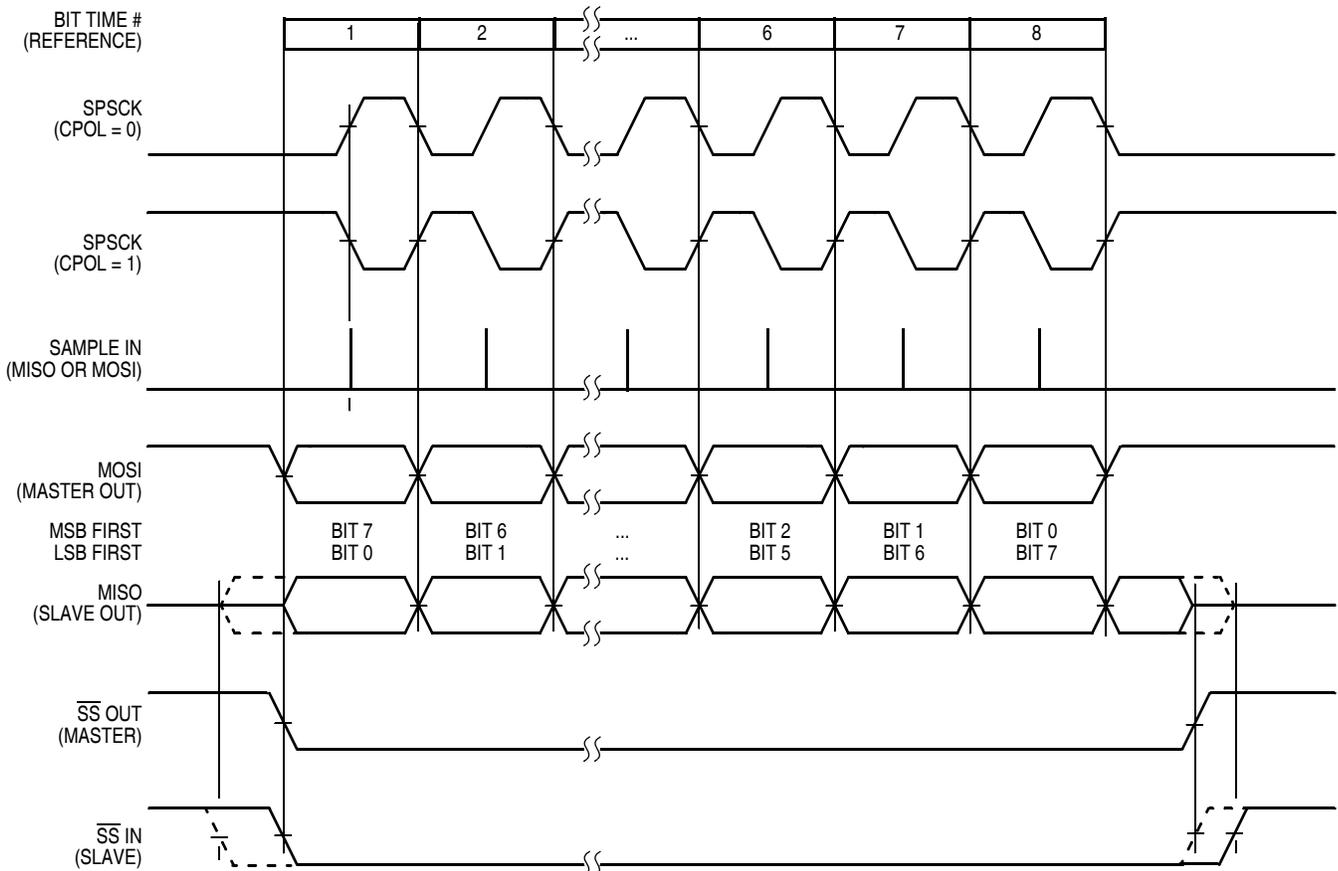

Figure 15-11. SPI Clock Formats (CPHA = 0)
**Figure 15-11** shows the clock formats when CPHA = 0. At the top of the figure, the eight bit times are shown for reference with bit 1 starting as the slave is selected ( $\overline{SS}$  IN goes low), and bit 8 ends at the last SPSCK edge. The MSB first and LSB first lines show the order of SPI data bits depending on the setting